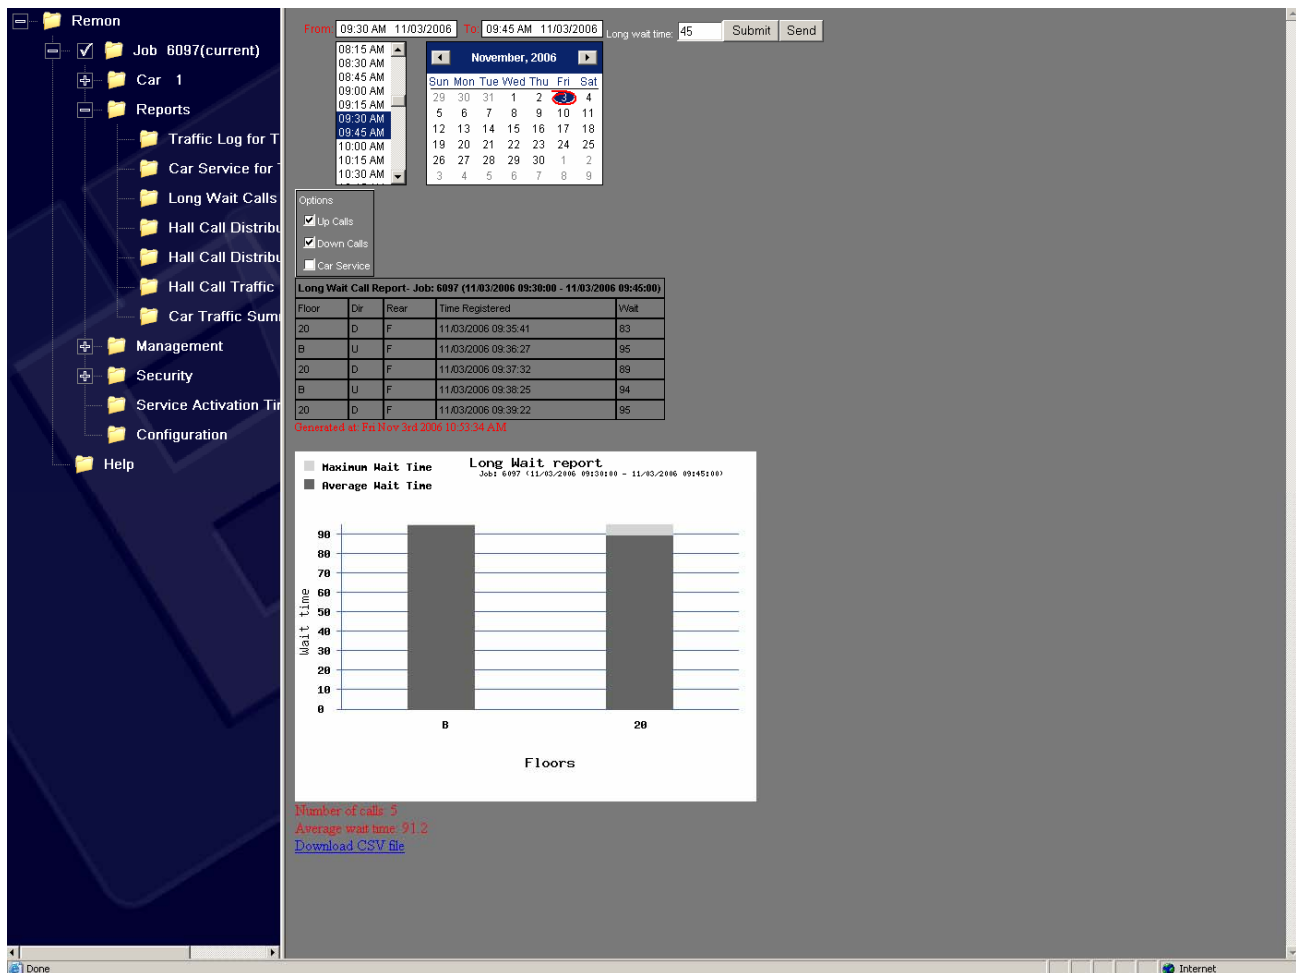

Figure 28. Long Wait Time Report Screen
- Click “Submit” button to display the report in the data display area as shown in Figure 28. Long Wait Time Report Screen. After receiving the report the user can adjust time range and resubmit his request. The report is redisplayed with different data corresponding to new time range.